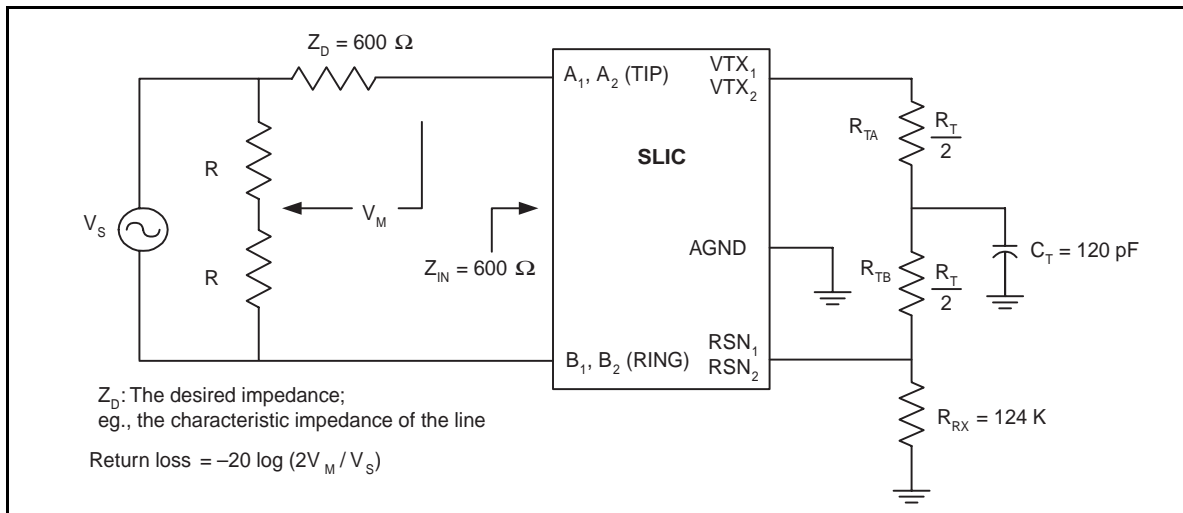

Figure 6 - Two-Wire Return Loss Test Circuit
- Group delay can be greatly reduced by using a Z_T network such as that shown in Figure 6. The network reduces the group delay to less than $2\ \mu s$ and increases 2WRL. The effect of group delay on linecard performance also may be compensated by synthesizing complex impedance with the QLSLAC™ device.